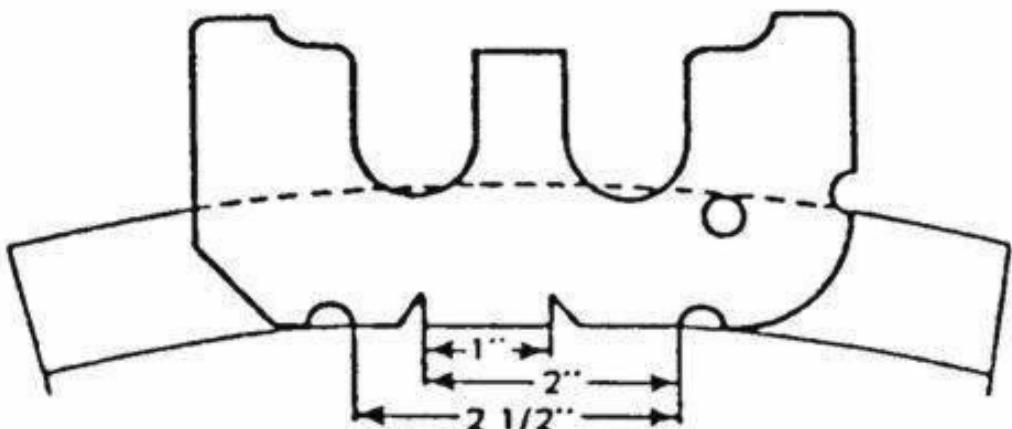

Figure 15 - WHEEL FLAT AND SHELL SPOTS MEASUREMENT
5. Check each Tire for Flats & Shell Spots and measure any defects with the recommended AAR tool (refer to Figure 15).